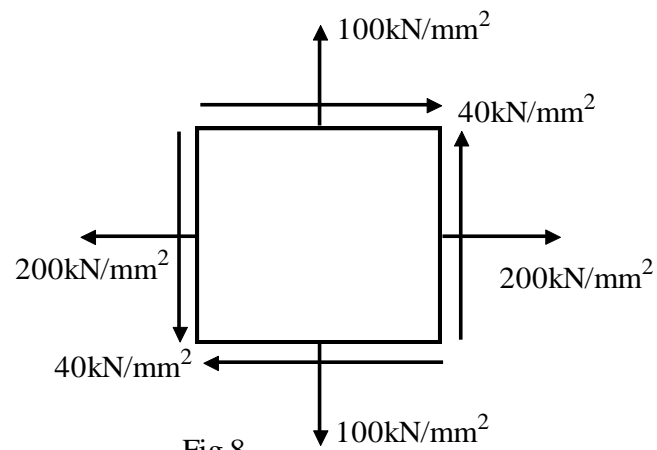

Fig. 8
9. a) An element in plane stress is subjected to stresses as shown in fig. 8. Determine 12